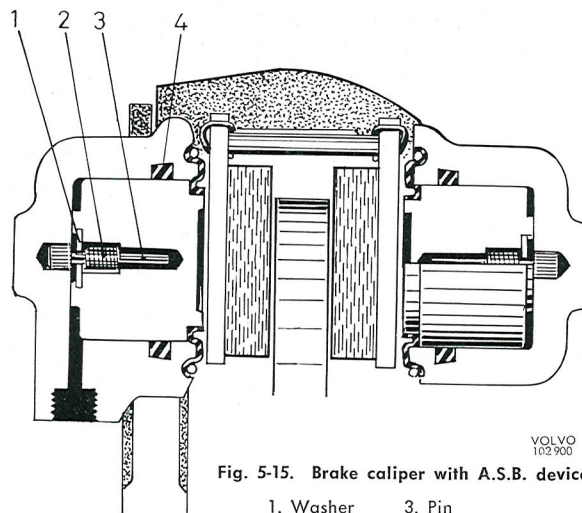

Fig. 5-15. Brake caliper with A.S.B. device
piston (and thus also the brake pad) is pressed against the brake disc and this removes the clearance A. If distance A is now greater than distance B, this means that the washer (1, Fig. 5-15) is pulling the spring (2) with it in the direction of the brake disc.